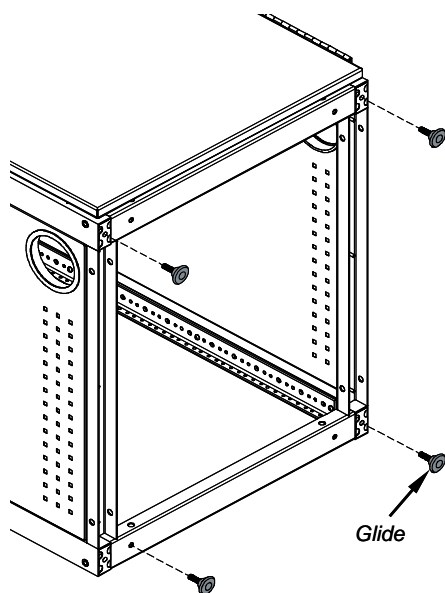

Figure 2A
- Install the (4) glides onto the bottom as shown. **Figure 2A.** The glides can be adjusted later to level the console.